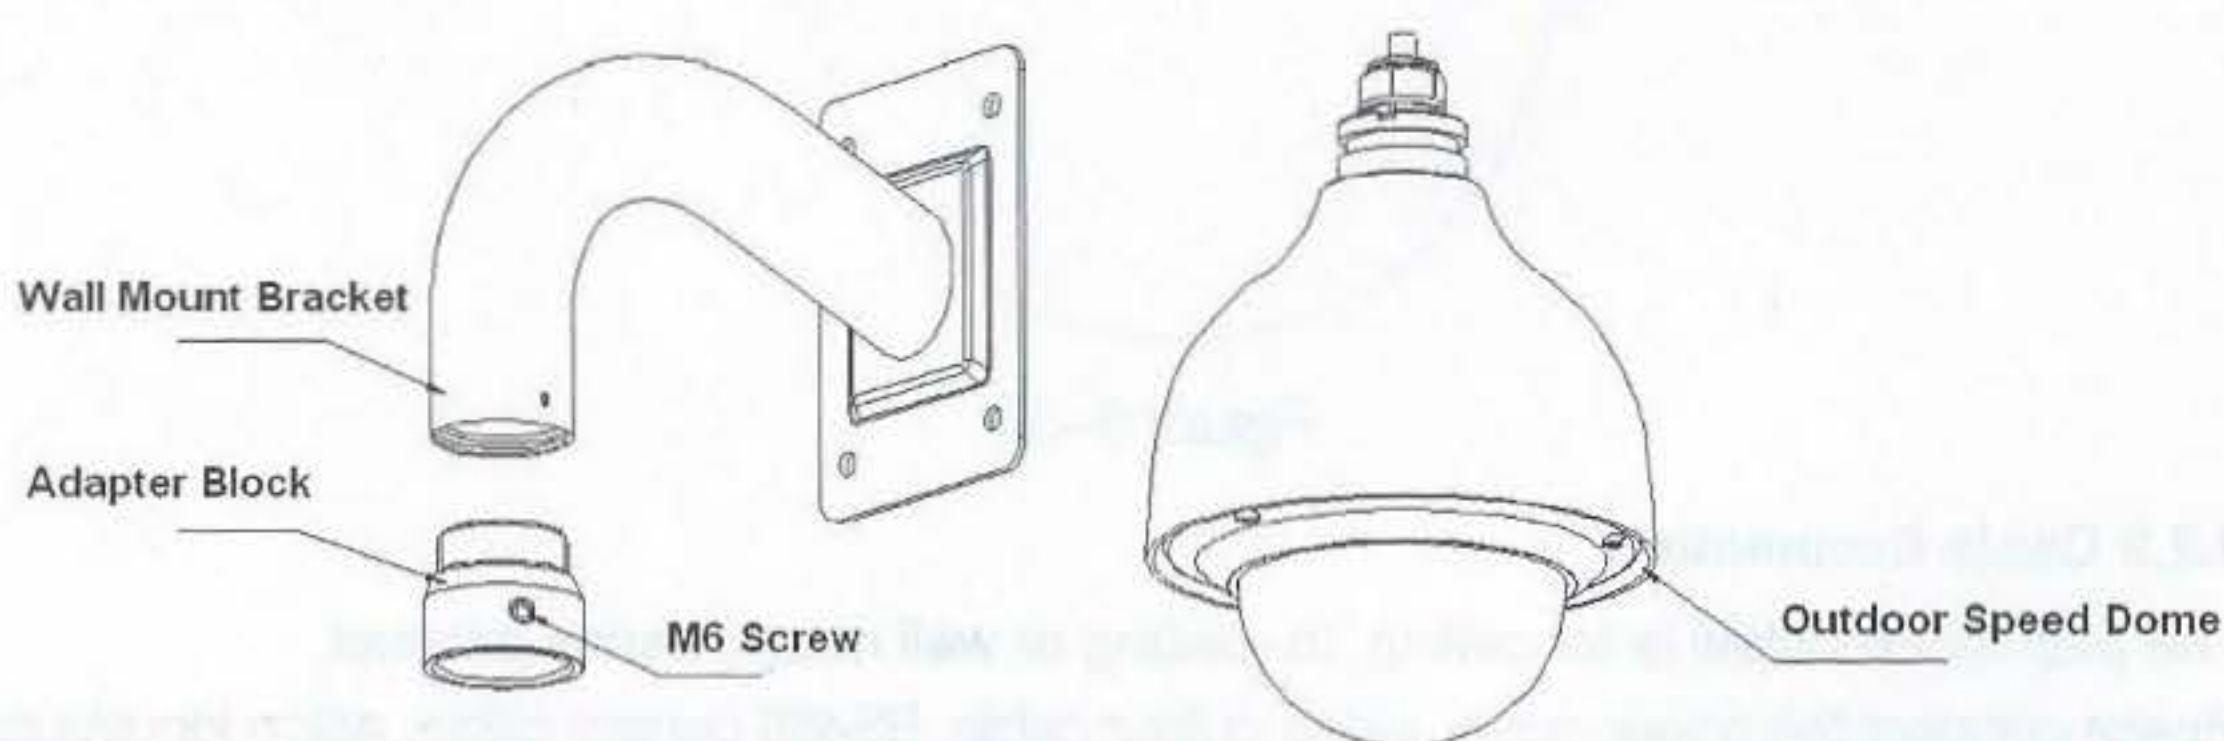

Figure 4–1
The wall mount bracket and outdoor speed dome is shown as in Figure 4–1.
- 2) In Figure 4–2, connect the adapter block to the internal thread of the wall mount bracket, until it reaches the end and then fix the set screw. Pull the intelligent speed dome composite cable through the adapter block and pull it out of the other end of the wall mount bracket. Line up the hook at the top of the external enclosure to the inside hole of the adapter block and then push it to the end, and then secure the three screws of the adapter block firmly. **Please note this step is very important. Please make sure the screws are firm, otherwise, it may result in falling risk of the intelligent speed dome.**